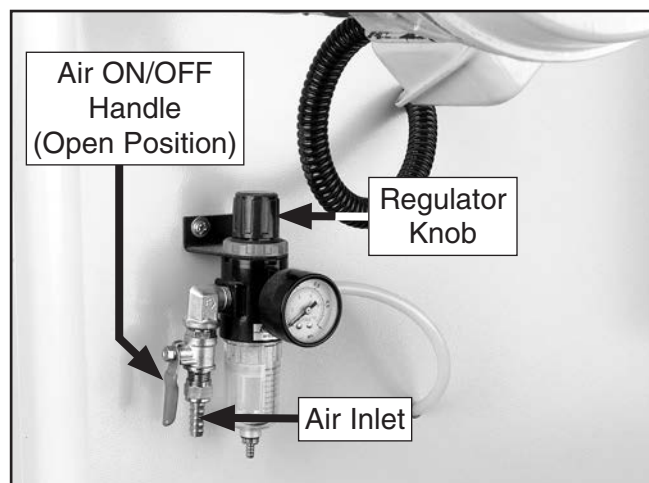

Figure 10. Air inlet and regulator components.
1. Connect hose from air compressor to air inlet (see **Figure 10**) on regulator.
3. Lift regulator knob (see **Figures 10–11**) and turn it until air pressure gauge reads 75 PSI.